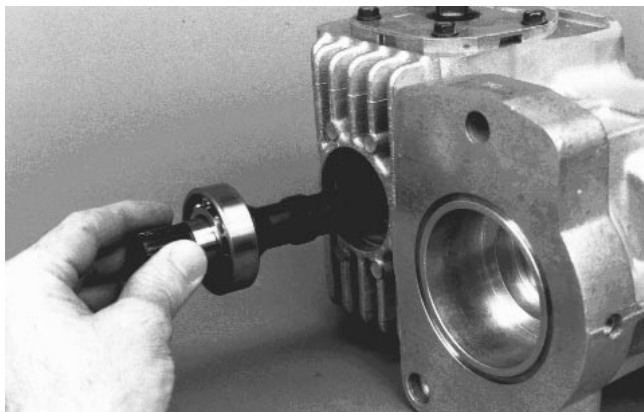

Figure 62
7. Press ball bearing onto pump shaft. Install pump shaft and bearing assembly into housing (Fig. 62).